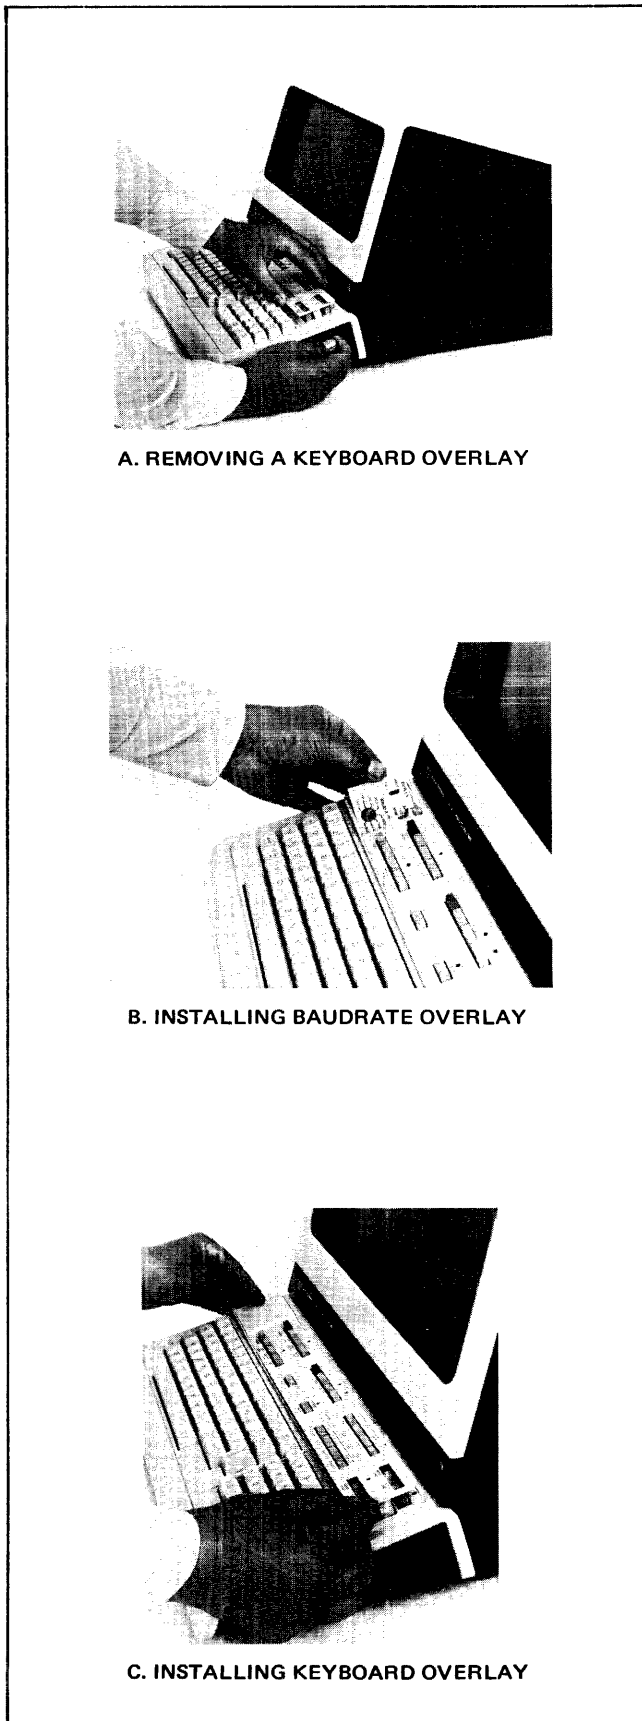

Figure 7-14. Installing Keyboard Overlays
17. () Install baudrate switch overlay and keyboard overlay as shown in figure 7-14.